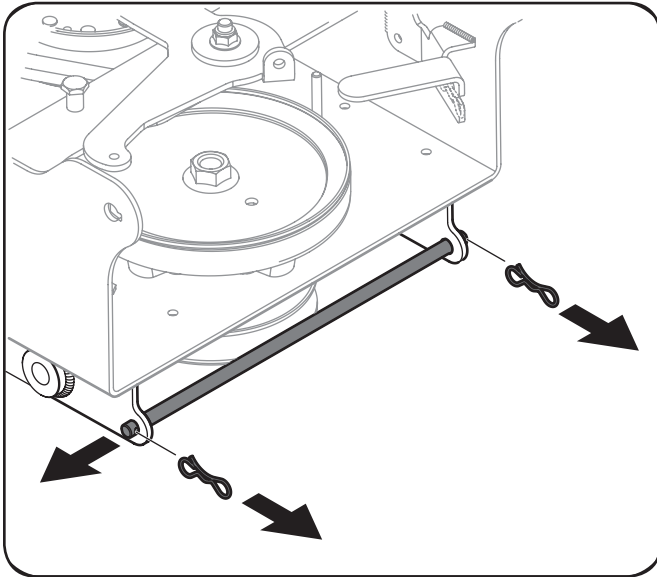

Figure 3-4
- Remove the rod from the rear of the carriage assembly. Retain the clips and rod, as they will be reattached in later steps. See Figure 3-4.